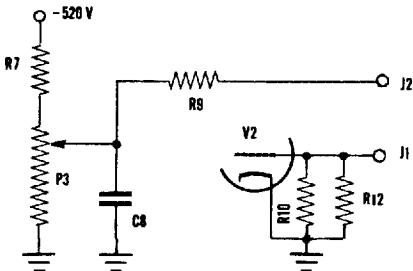

Fig. 7
- Fig. 7. Leakage check circuit in "PAPER-MICA TEST" position. R9 slows down charging process so that electron-ray tube action will not be too fast for detection by the operator.
- Fig. 8. Leakage check circuit in "ELECTROLYTIC TEST" position. Note that R11, 2.2KΩ, provides reduced electron-ray tube sensitivity as compared to the circuit of Fig. 7.